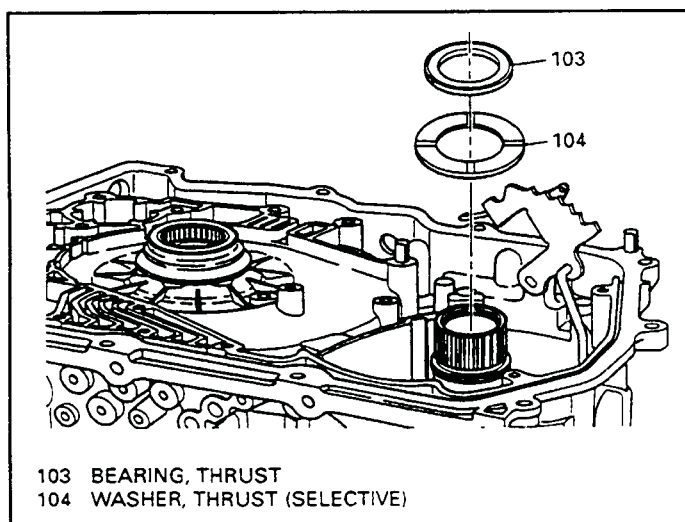

Figure 144
4. Install the correct selective washer (104) onto the top of the input housing with the tab on the thrust washer in recessed area of housing. (See Figure 144).
5. Install the thrust bearing (103) over the input shaft and on top of the selective thrust washer as shown in Figure 144.